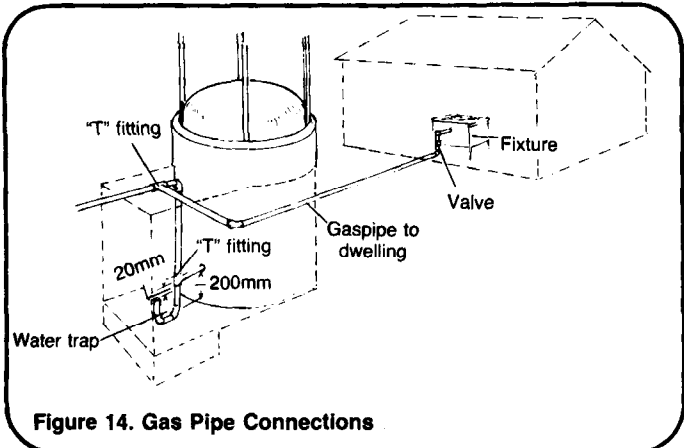

Figure 14. Gas Pipe Connections
2. Run the gas line across the top of the pit near one side, then down the outside wall of the gas holder to the section of the pipe in the wall. See Figure 14.
4. Run a gas line from the "T" fitting in or near the pit to the dwelling. This line may be buried 100-150mm below ground to protect it from damage. Install a valve just inside the dwelling. See Figure 14. Extend the line and install the fixtures such as lamps, stoves, and water heaters.